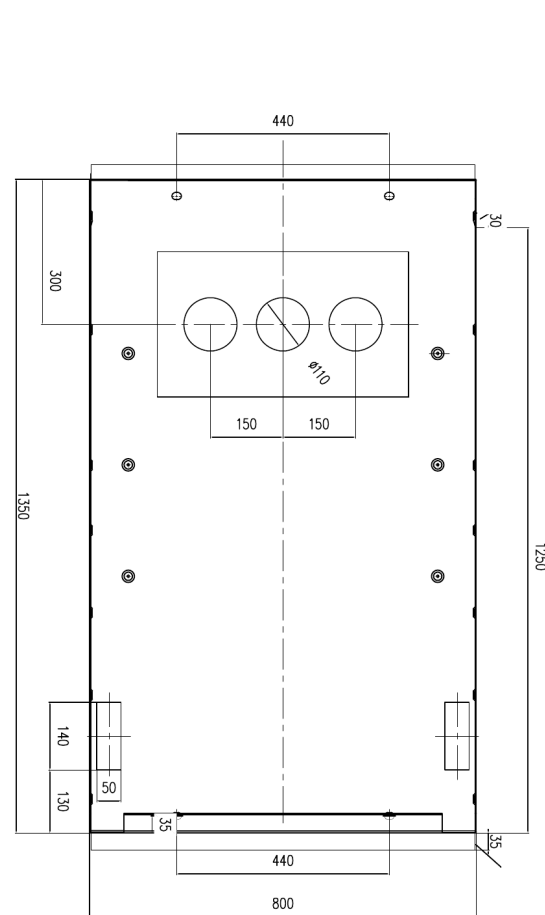
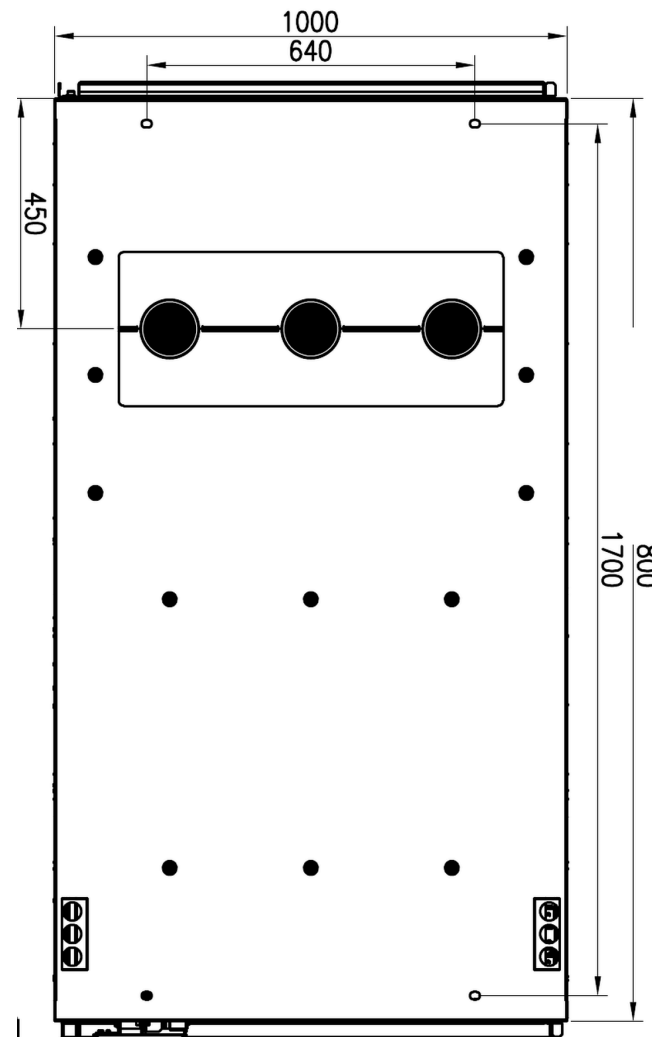

Fig. 7 — MVnex 12 kV, 800 mm cabinet
Fig. 8 — MVnex 24 kV, 1000 mm cabinet
- Base fixing holes and the cable entry openings are on Fig. 7 of the installation spread
- Fig. 7 and Fig. 8 are drawn to the same scale, so the two footprints compare directly